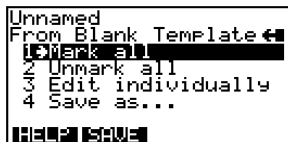

FIGURE 1-13. From Blank Template Menu.
4. Select a device model for configuration; the Field Device Revision (Fld dev rev) menu displays. The Fld dev rev menu contains the currently installed software revisions for the field device and device descriptions (DD) for the model you selected from the previous screen.
5. Select a device revision; the From Blank Template menu (**Figure 1-13**) displays.